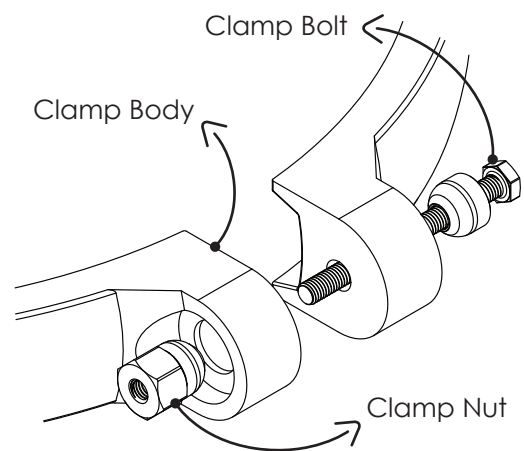

Figure 10
2. Assembly the Clamp Body around the Filter Body. (See Fig 10)